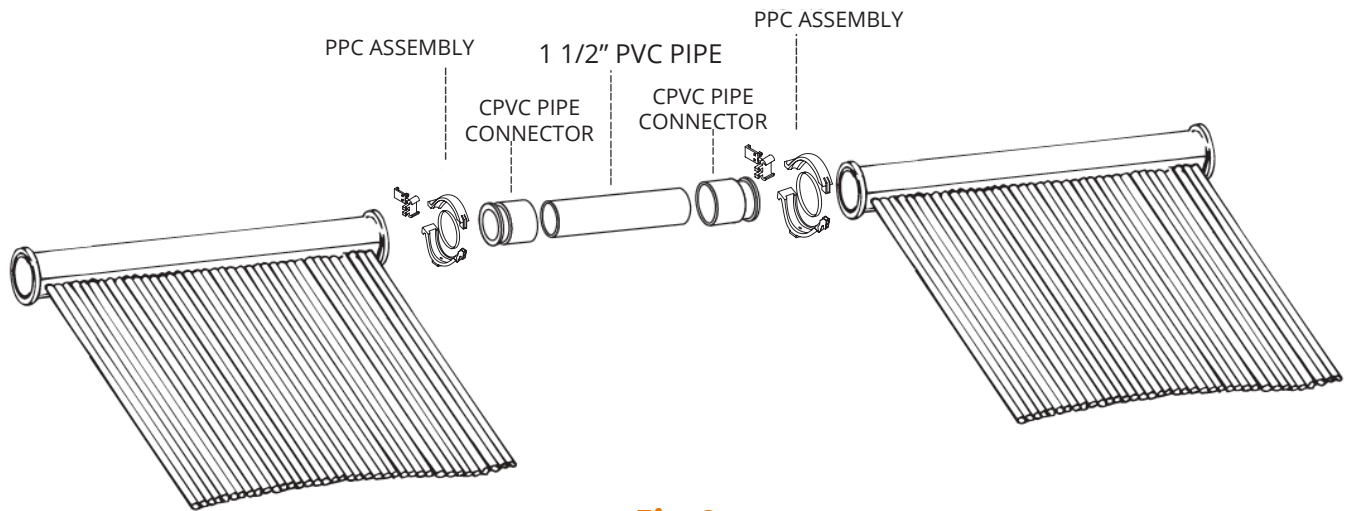

Fig. 8
1. Connect (4) of the CPVC Pipe Connectors to the manifolds of the collectors with PPC sets using the same procedures outlined in the section on **Connecting Collectors Together**.
3. Cement the PVC pipe to the CPVC Pipe Connectors as shown in Fig. 8. This should be done on both the top and bottom manifolds.